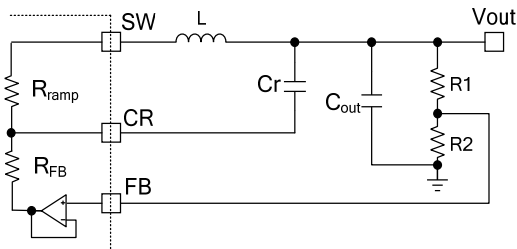

Figure 7: Simplified External Ramp Circuit in PWM Mode with Small ESR Capacitor
Figure 7 shows simplified external ramp compensation for PWM mode. Chose the external ramp (Cr) to meet the condition in Equation (7):